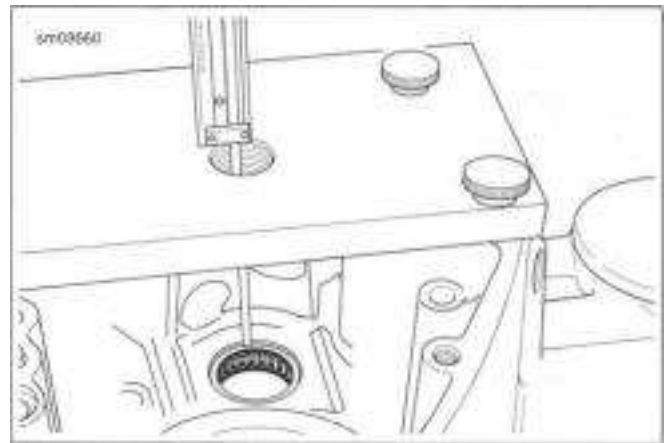

**Figure 4-56. Remove Camshaft Needle Bearing Install**
1. See Figure 4-56. Remove camshaft bearing using components of CAMSHAFT NEEDLE BEARING REMOVER/INSTALLER (PART NUMBER: HD-42325-C).
2. See Figure 4-56. Install bearing using HD-42325-7A (CAMSHAFT NEEDLE BEARING INSTALLER).